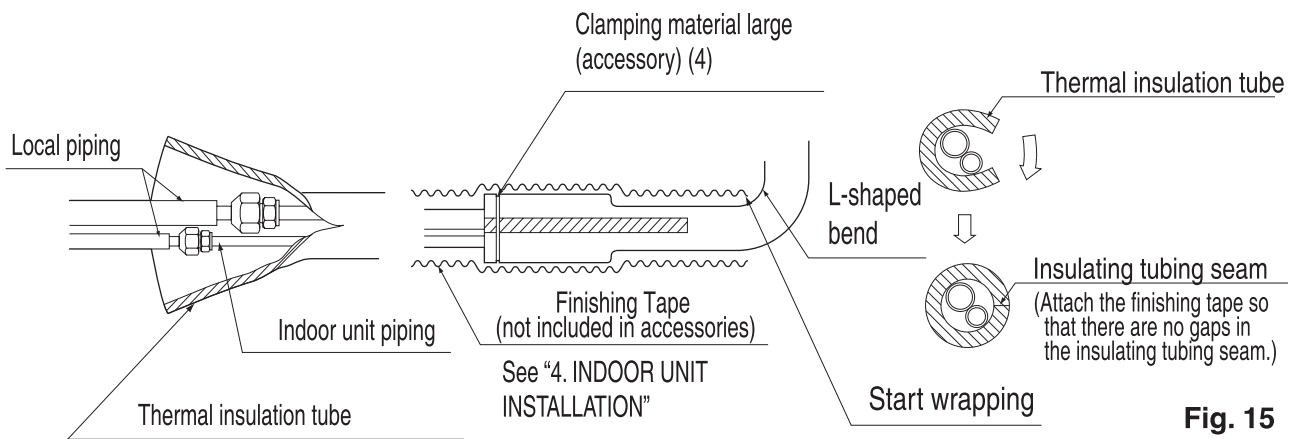

Fig. 15
- After checking for gas leaks, be sure to insulate the pipe connections using the thermal insulation tube & finishing tape. The finishing tape should be wrapped from the L-shaped bend all the way to the inside the unit (**Refer to fig.15**)